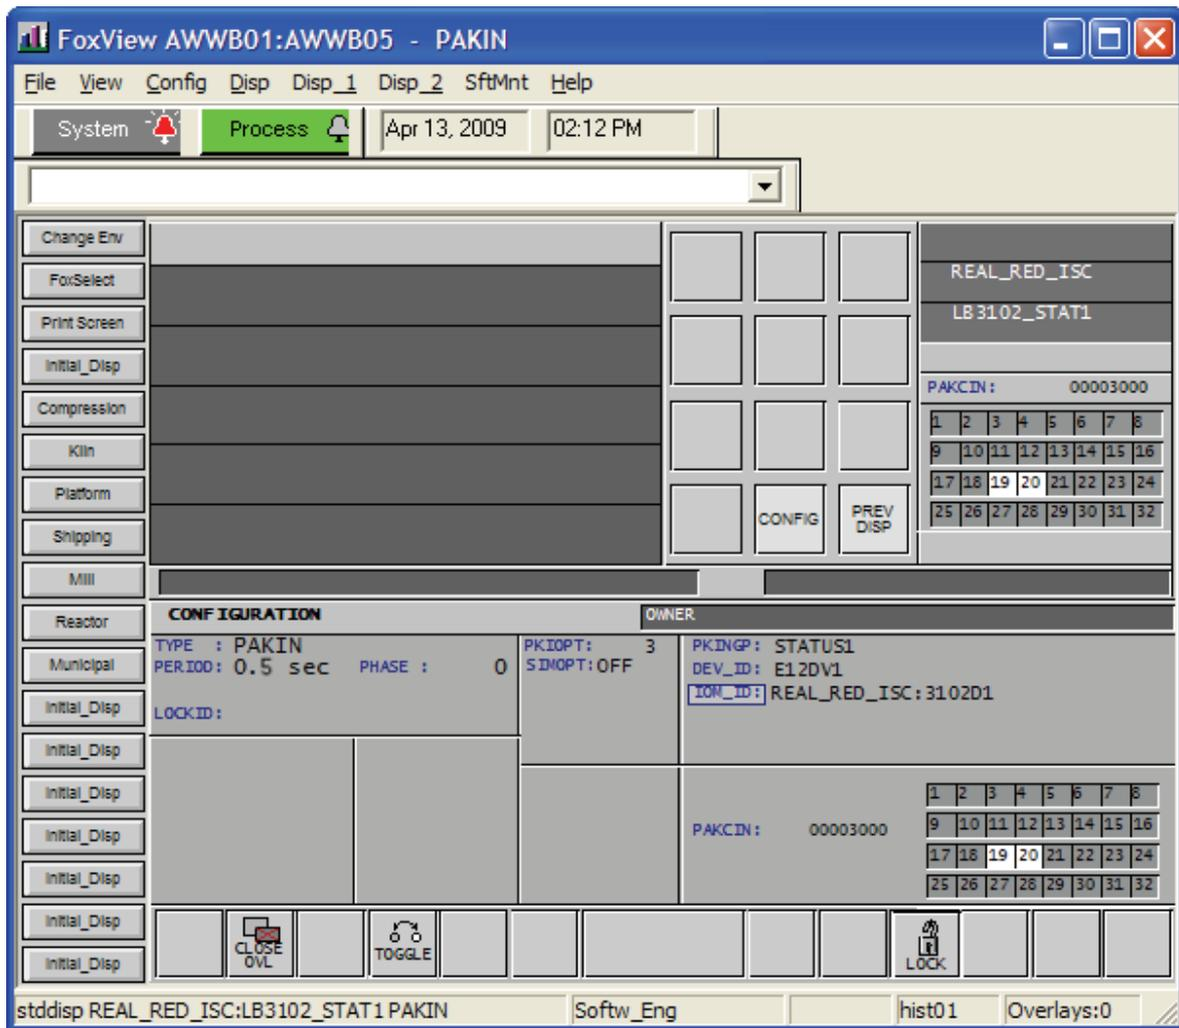

Figure 4-30. PAKIN Block Example
- ◆ The PAKIN block detail display shows the PAKCIN parameter as in the examples above, but the individual bits are displayed as most significant bit=1 (upper left) and least significant bit=32 (lower right). This means that the top line displays the bits in byte 4 and the bottom line displays the bits in byte 1. Bits 19 and 20 shown in Figure 4-30 that are a logical 1 reside in byte 2, bits 5 and 4 of the command 48 status reply message.